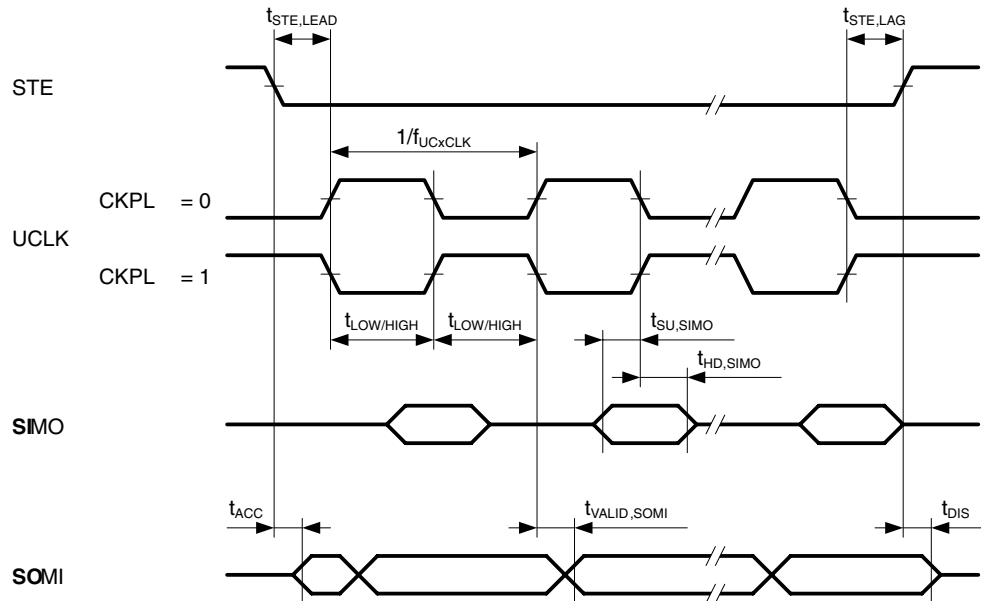
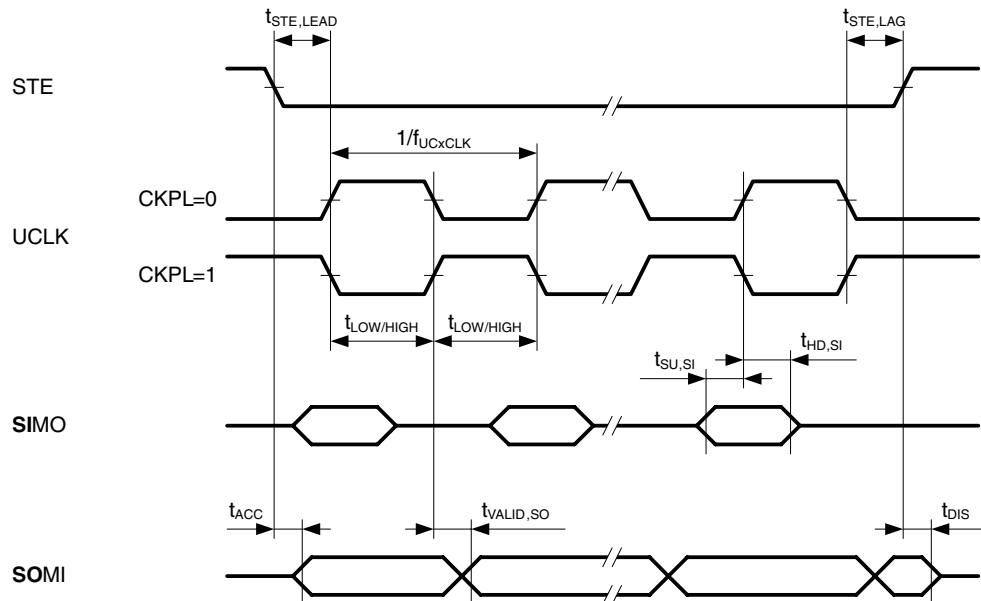

Figure 20. SPI Slave Mode, CKPH = 0
Figure 21. SPI Slave Mode, CKPH = 1
**USCI (SPI slave mode) (see Figure 20 and Figure 21)**